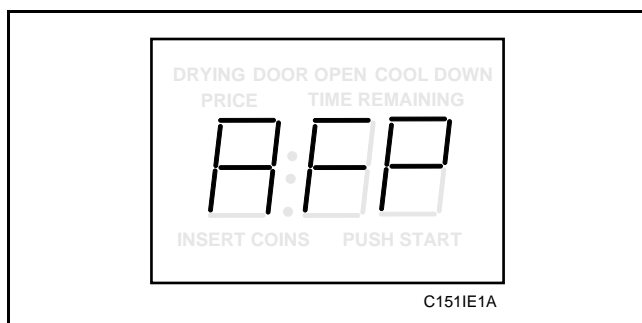

Figure 23
3. Press the LOW TEMP (+) pad or the NO HEAT (-) pad to scroll through the programmable options until “AFP” appears in the VFD, *Figure 23*.